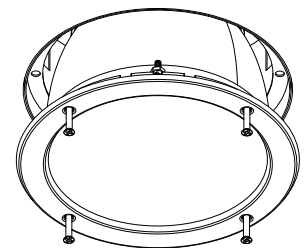

Figure 4
5. For trims with screws, insert the trim into the frame ring aligning the four (4) trim mounting screws with the cage nuts in the frame ring. Tighten to secure the trim. See Figure 4.